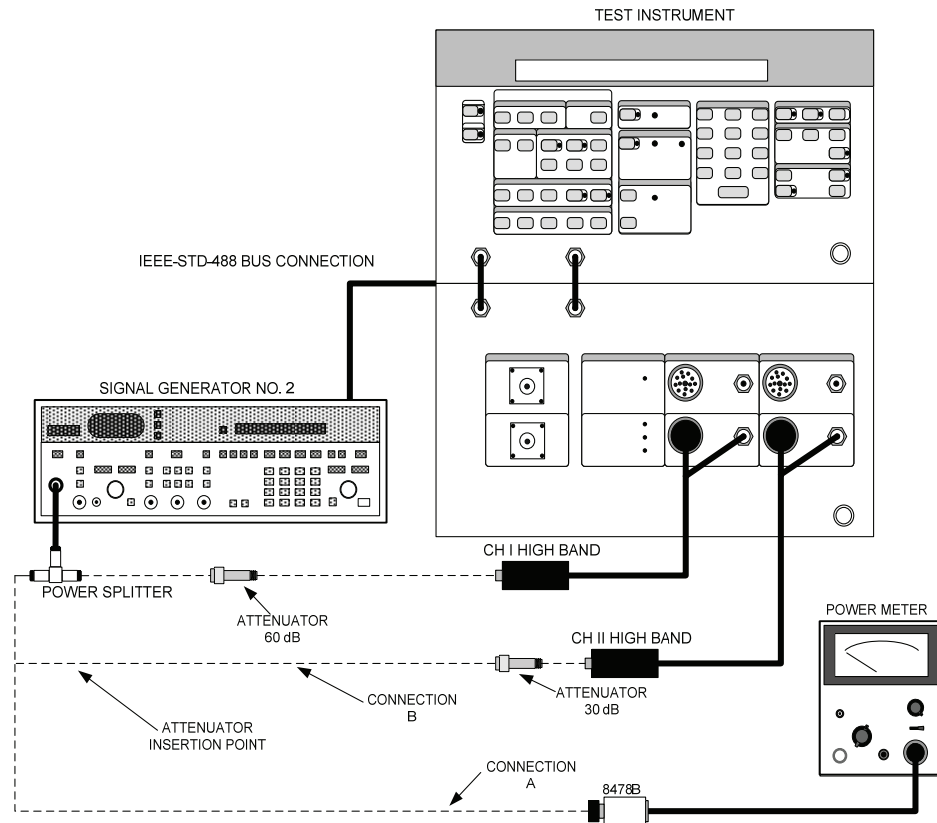

Figure 2. Attenuation accuracy and dynamic range (0.01 to 18 GHz) - equipment setup.
- (1) Connect equipment as shown in figure 2, connection A, using high band probes.
- (2) Adjust signal generator No. 2 for 0 dBm or less as indicated on power meter.
- (3) Connect equipment as shown in figure 2, connection B.
- (4) Program TI, using data entry and **LOCAL PROGRAM** pushbuttons as listed in (a) through (o) below.
- (5) Press **REF** pushbutton (**MEASUREMENT CONTROL**) and press **FREQUENCY BAND A** pushbutton.
- (6) Press **RUN** pushbutton (**MEASUREMENT CONTROL GP**). After **RUN COMPLETE** displayed proceed to (7) below.
- (7) Press **MEAS** pushbutton (**MEASUREMENT CONTROL**) and **FREQUENCY BAND A** pushbutton.
- (8) Insert 6 dB attenuator at attenuator insertion point as shown in figure 2.
- (9) Press **RUN** pushbutton (**MEASUREMENT CONTROL**).
- (10) When TI indicates **RUN COMPLETE**, press **ALL** pushbutton (**DISPLAY CONTROL**), step through test results by pressing **FWD** pushbutton while observing that TI display indicates the measured insertion loss \pm maximum uncertainty as listed in test report for the attenuator (± 0.02 dB/10 dB).